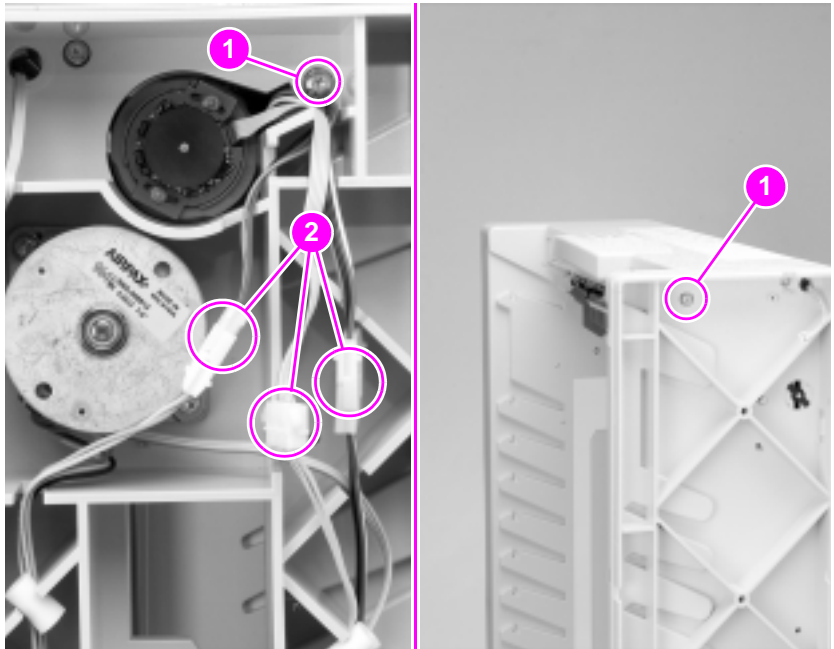

Figure 160. Flipper assembly (1 of 3)
- 5 Unplug 3 connectors (figure 160, callout 3).